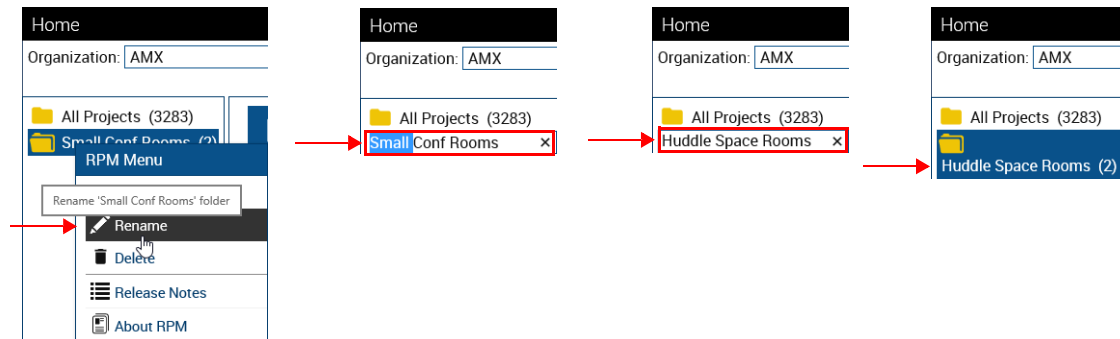

FIG. 50 Folders view context menu - Rename
1. Right-click on a custom folder and select **Rename** from the context menu. Type the new name in the text field (FIG. 50):
1. Right-click on the custom folder that you want to delete and select **Delete Folder** from the context menu (FIG. 50):